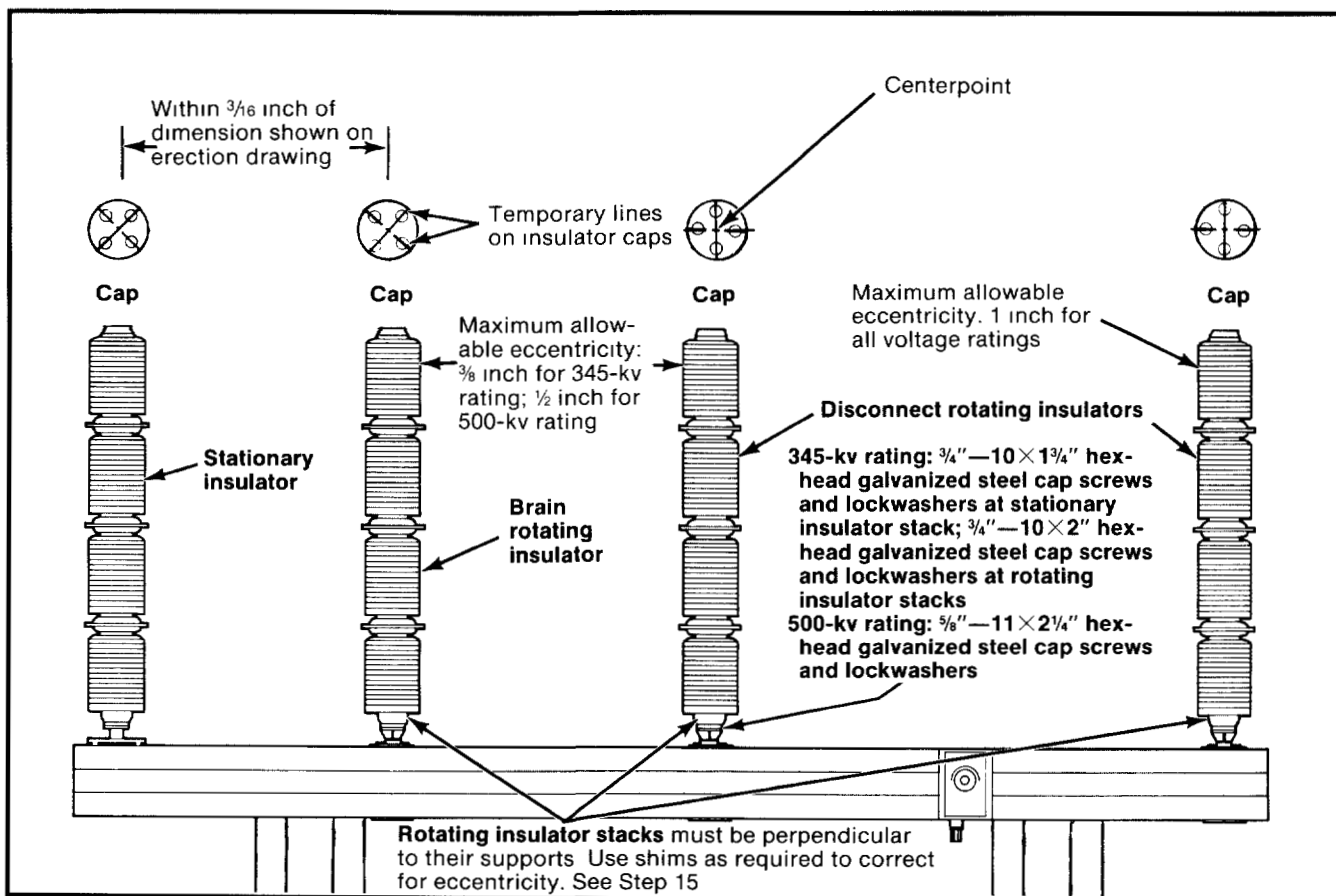

Figure 16. Critical dimension and alignment to be attained by using shims and leveling screws.
Attach the insulator stacks to the pole-unit insulator supports with the galvanized hardware (furnished) as shown in Figure 16. Securely tighten all cap screws.
- (a) Locate the centerpoint of each of these insulator stacks by accurately drawing, on the top of each insulator cap, temporary lines which bisect and connect opposite bolt holes. See Figure 16.
- (c) Crank the manual operating handle on the switch operator to rotate the insulator stacks through their full travel. (The full open-close rotational travel of the rotating insulator stacks is as follows: approximately 104 degrees for the insulator stack associated with the brain, and approximately 95 degrees for the insulator stacks associated with the disconnect blades.) Verify that the centerpoint of each insulator cap does not move more than as specified in Figure 16 and, at the same time, observe the arc of this movement. Any excess eccentricity must be corrected by shimming the insulator stack(s)—the higher up in the stack that the shims are placed, the less the degree of correction. Shimming material is included with the insulator hardware in a cloth sack attached to the pole-unit base.
Then measure the center-to-center distance between the stationary insulator stack and the brain rotating insulator stack. See Figure 16. This distance must be within $\frac{3}{16}$ inch of the dimension shown on the erection drawing.